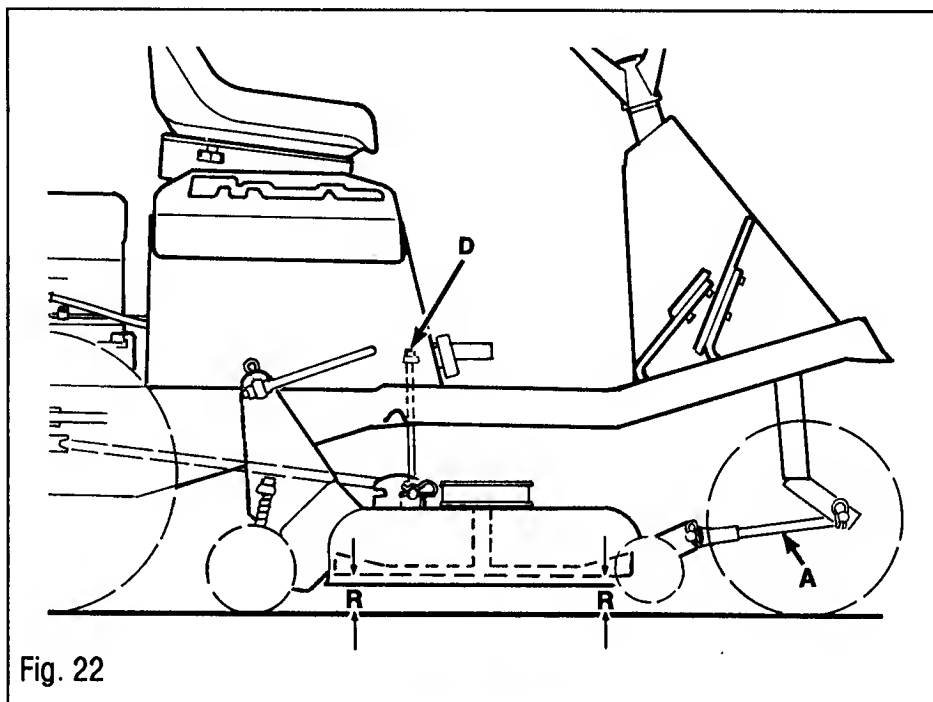

Fig. 22
4. Align a cutting blade so tips point to the front and rear of the unit. Measure distance from ground to tips of blade. (R, Fig. 22). Both tips should be the same distance from the ground. If they are not, adjust front rod (A, Fig. 22) as necessary. Place mower lift lever into the raised (UP) position to adjust. Lower mower again to recheck level.
2. Measure distance from ground to tips of blade. Both tips should be the same distance from the ground. If they are not, remove lift rod from mower deck and push lift rod up through frame so nuts (D, Fig 22) are accessible. Adjust nuts (D) as necessary. Re-attach lift rods and re-check level. Repeat as necessary.